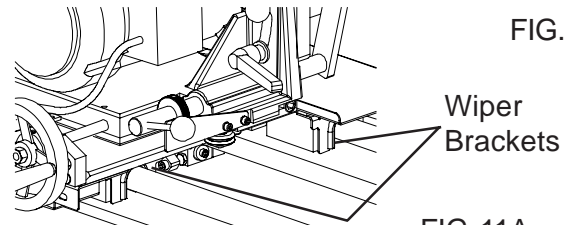

FIG. 11A
3. Remove the two rail wiper brackets from each side of the carriage - two screws each. (See Fig11A)